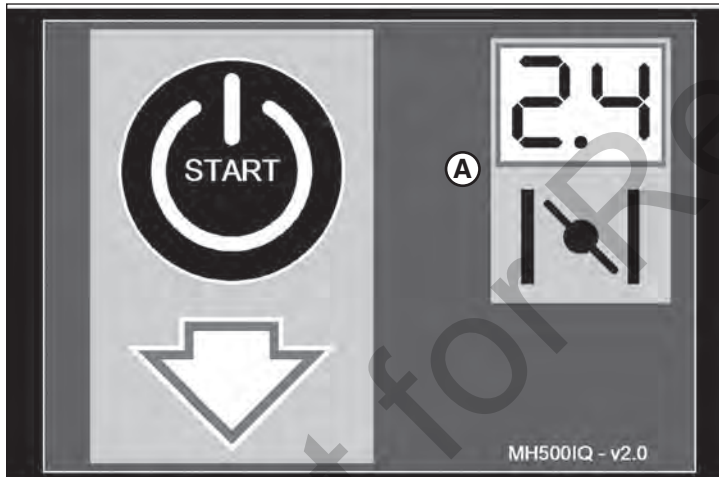

Figure 22
3. Allow the display to power up. The initial display is the 'Start' screen. See Figure 22.
4. The number at the upper right of the display (A, Figure 22) is the recommended damper setting.